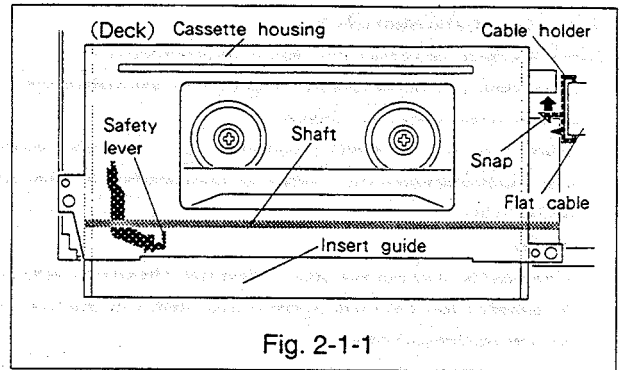

Fig. 2-1-1
#### 2-1-1 Removal(Refer to Fig. 2-1-1~2-1-2.)
- Unfasten the snap of the cable holder and remove the cable holder from the cassette housing as shown in Fig.2-1-1.
#### 2-1-2 Installation(Refer to Fig.2-1-1~2-1-3.)
- Slowly lower the cassette housing onto the main plate of the deck so that the safety lever enters between the insert guide and the shaft as shown in Fig. 2-1-1. Align the two positioning holes (e, f) and the two U holes (g, h) located on the cassette housing with the matching holes in the deck.